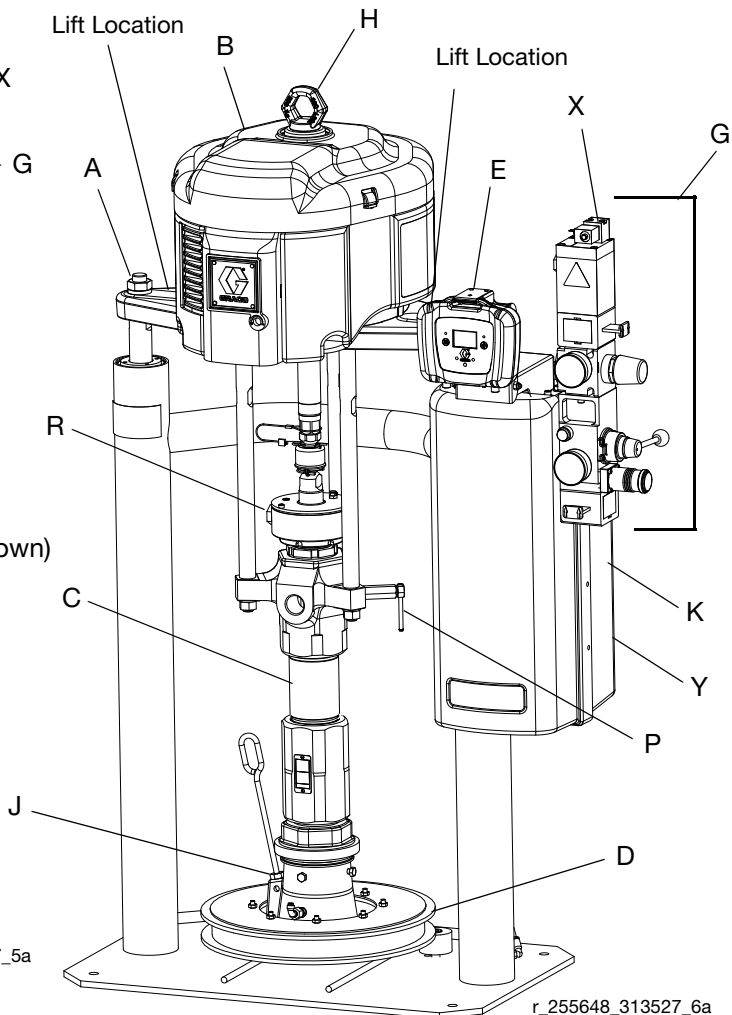

FIG. 2: Typical Installation
FIG. 1 and FIG. 2 are only guides for selecting and installing system components and accessories. Contact your Graco distributor for assistance in designing a system to suit your particular needs.
Always lift the supply system at the proper lift locations (see FIG. 1 and FIG. 2). Do **not** lift in any other way. Failure to lift at the proper lift locations can result in damage to the supply system.
1. Attach a lifting sling at the proper lift spots (see FIG. 1 and FIG. 2). Lift off of the pallet using a crane or a forklift. See **Weight** on page 40.
1. Fill displacement pump wet cup (R) 1/3 full with Graco Throat Seal Liquid (TSL).
3. Connect air line from an air source to the system air inlet. See FIG. 1 and FIG. 2. Refer to the pump performance curves in the Check-Mate Pump Packages Instructions-Parts manual to determine your air supply flow requirements. Use a supply hose capable of meeting the required flow.